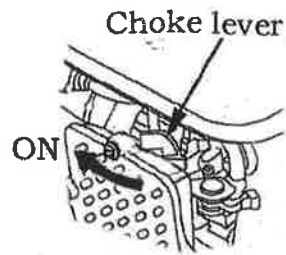

Fig. 10
5. Gradually move the choke lever to the ON position. Warm up the engine until it runs smoothly (Fig. 10).